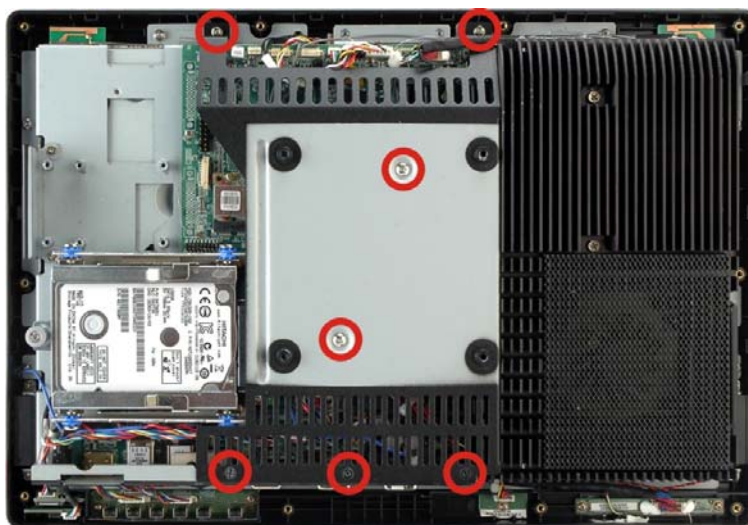

Figure 3-8: Internal Cover Retention Screws
Step 2: Remove the seven (7) retention screws securing the internal aluminum cover to the chassis (**Figure 3-8**).